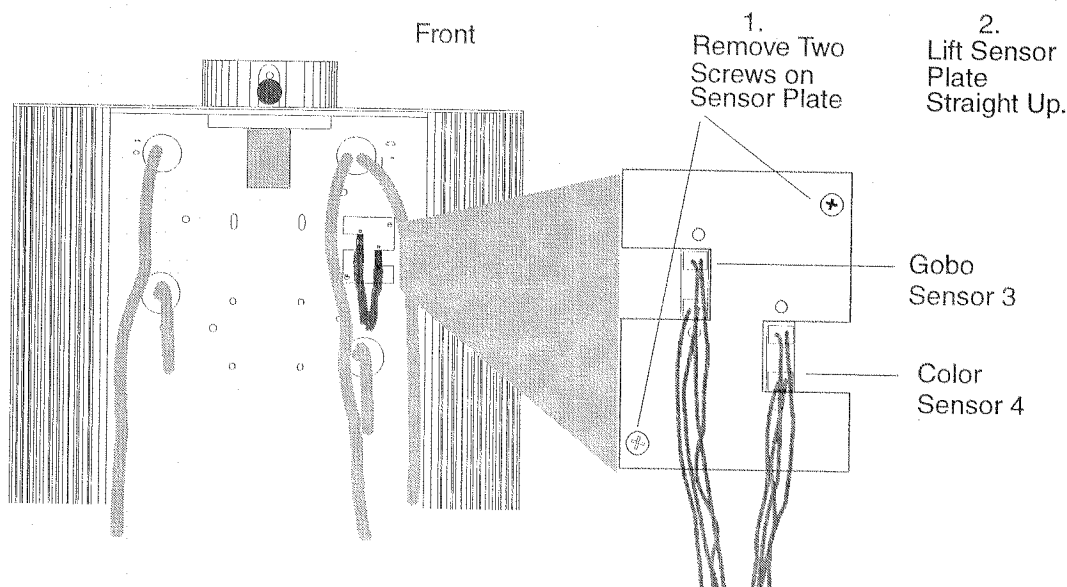

Figure 8.7. Removing the Sensor Assembly
6. Locate the two screws that hold the sensor plate in place. Refer to Figure 8.4. Remove the two screws and note the orientation of the sensor plate. You must re-install the plate in the same direction. Notice in Figure 8.7 that the gobo sensor is number 3 and closer to the front than the color sensor.